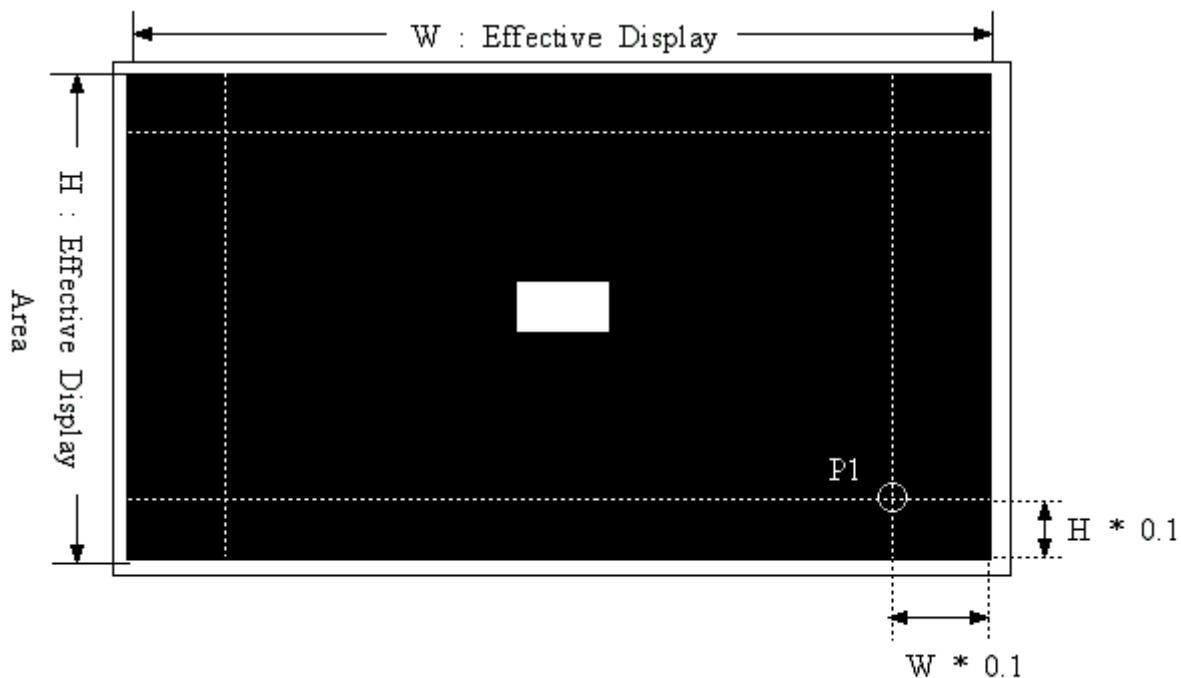

Figure-4. Measurement point
- \* 2. Contrast Ratio is calculated from the display Luminance and the non-display Luminance value. Display condition is shown in Figure-4.
1. For mass production test purposes, it is recommended to measure just 1 point, P1 of Figure.-4 on display pattern of Fig.-3.
(5) Ambient Light : Dark Room (<2 lux)